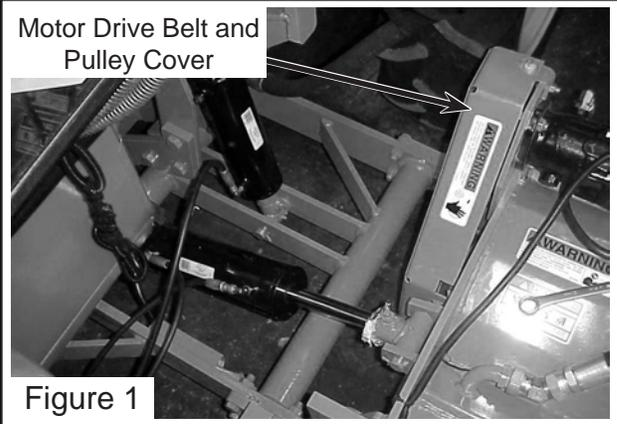
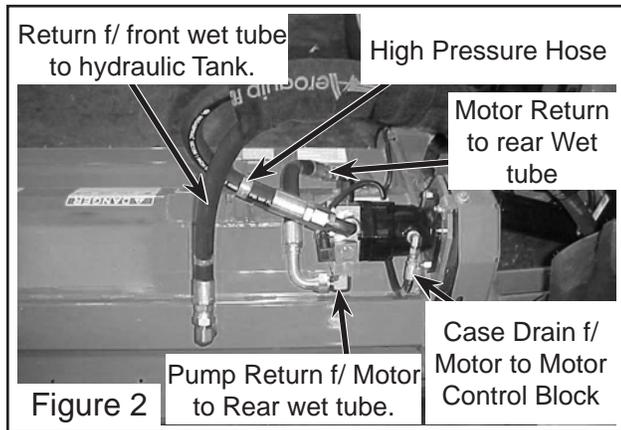

Figure 1
Figure 2
1. Remove drive belt cover on wing mowers. Remove drive belt cover (See Figure 1) which will allow access to the motor drive belt and pulley. (See Figure 2)
2. Disconnect hoses from wing motor. The hoses on the wing will need to be disconnected from motor. Cap (plug) these hoses and all openings in motor immediately when you disconnect them. (See Figure 2)
11. Reinstall belt cover. Install the belt cover back onto the end of the mower deck and reinstall the retaining bolts. Do not operate any mower with shields or guard damaged or missing. (See Figure 1 through 4)